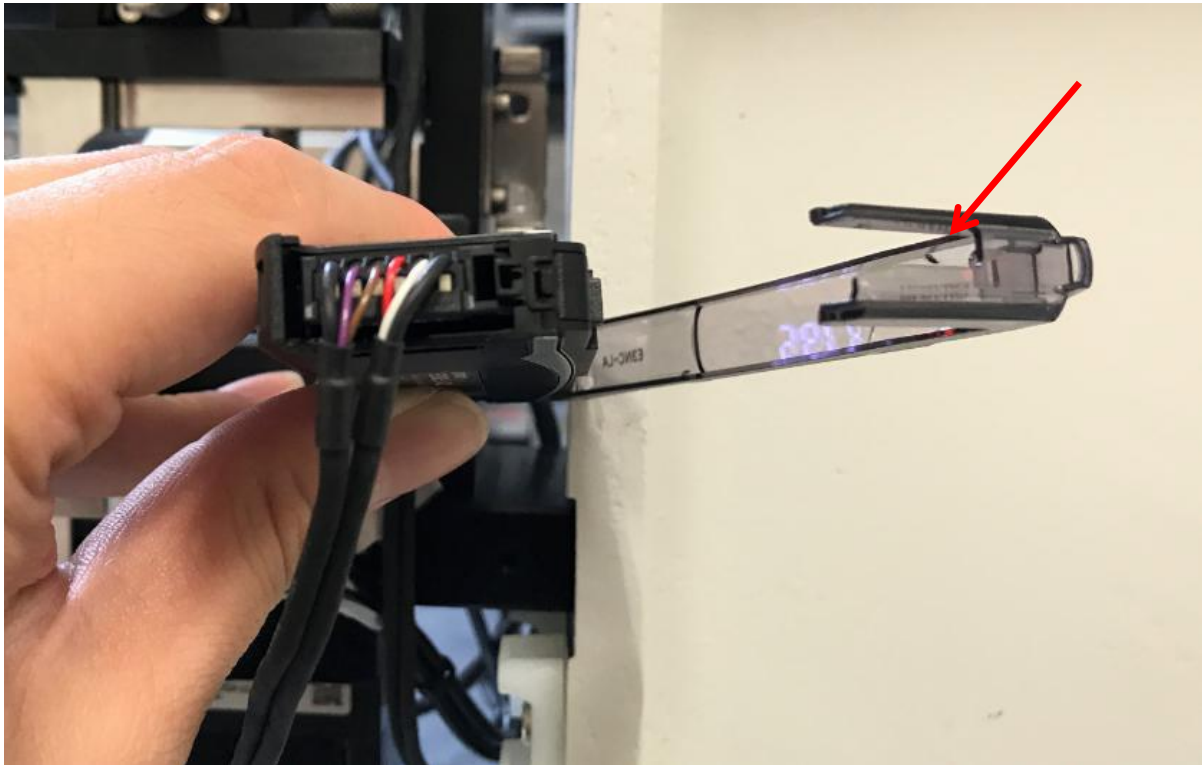

Figure 7
9. Open up Filter Height Sensor Cover as below Figure 7.